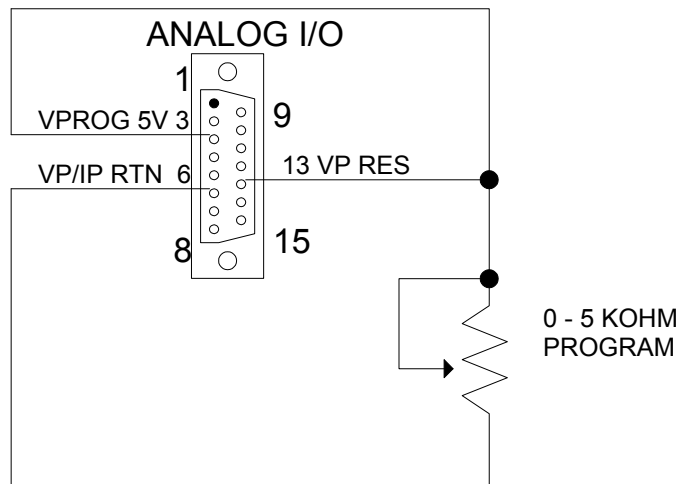

Figure 5-2: Remove Voltage Programming Using Resistance
- External Voltage Programming using a resistor. The resistance coefficient for remote voltage programming is 5k ohms/100% of rated output voltage with respect to the (ISO VP/IP RTN), pin 6. The programming current from pin 13 (VP RES) is 1 milliamp through a 5 V DC supply. This yields a coefficient of 1.0% of rated output current for each 50 ohms. If multiple switches or relays are used to program different levels, make-before-break contacts are recommended. See Figure 5-2 for connection requirements.
- External Voltage Programming using an external current source. This is similar to the use of a voltage source except the available current source is converted to a voltage source by using an external resistor. If the current source is fixed, a variable resistor will result in a voltage input to the RPV input proportional to the resistor setting. See Figure 5-2 for connection requirements.
- External Current Programming using an external current source. This is similar to the use of a voltage source except the available current source is converted to a voltage source by using an external resistor. If the current source is fixed, a variable resistor will result in a voltage input to the RPI input proportional to the resistor setting. See Figure 5-2 for connection requirements.